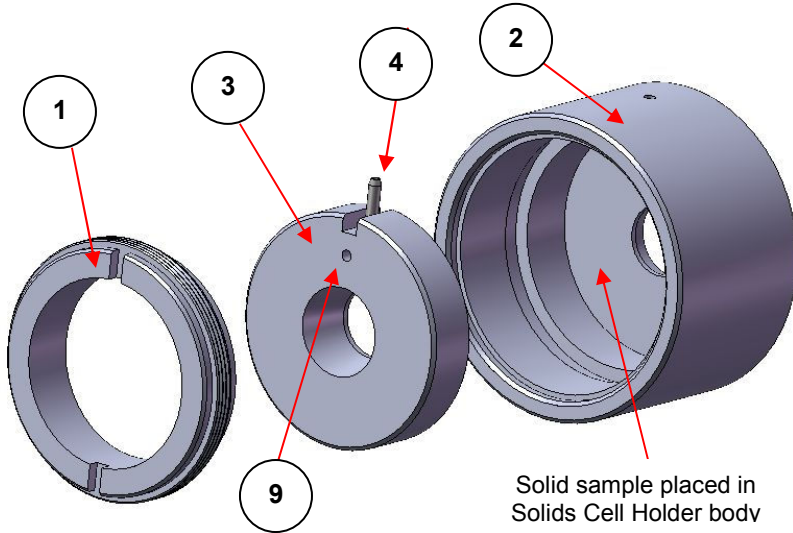

Fig. 3 Exploded view of Solids Cell Holder GS20600
1. Remove the screw retaining ring (1) (turn anticlockwise) from the Solids Cell Holder body (2) by means of the square key provided. The square key locates into the slots of the retaining ring (1) (See Fig.3). The pressure plate (3) will now be accessible. Remove the pressure plate (3) from the body (2).
2. Insert an appropriate sized solid sample such that it lays flat in the Solids Cell Holder body (2).
3. Replace the pressure plate (3) onto the solid sample, by placing it inside the body (2) and aligning it by engagement of the anti-rotation pin (4). There is a taper to the aperture of the pressure plate (3), whereby one side has a larger diameter to the aperture than the other. Ensure that the smaller diameter aperture side of the pressure plate (3) is in contact with the solid sample.
4. Replace the retaining ring (1) into the body (2) and tighten (turn clockwise) by means of the square key. Ensure that the sample is firmly clamped in the Solids Cell Holder holder, taking care not to over-tighten in case of damaging the sample.
When the Solids Cell Holder P/N GS20600 is to be used in the Electrical Heating Jacket P/N GS20730, a connection must be made to the temperature controlling thermocouple assembly of the Electrical Heating Jacket. The tip of the thermocouple is securely fitted into the Solids Cell Holder via the thermocouple well hole (9) – see Fig. 3. Explanation of how to connect the thermocouple is found from the instruction manual for the Electrical Heating Jacket P/N GS20730.